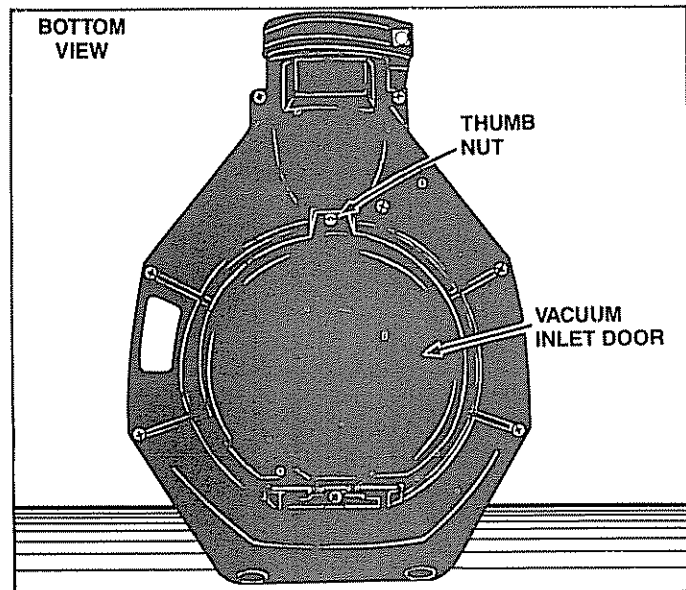

Figure 2
3. Set the unit on a flat surface as shown in Figure 2, and unthread the thumb nut holding the vacuum inlet door closed.